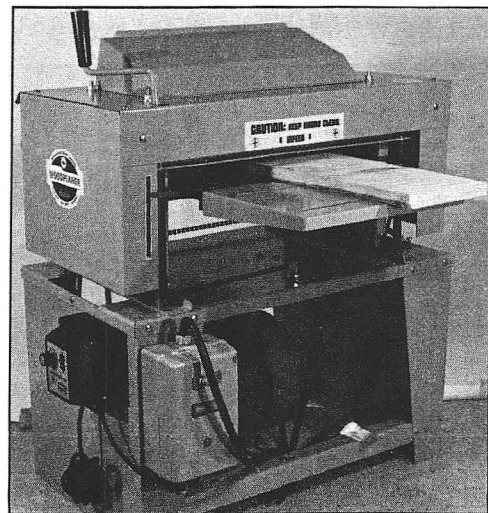

Fig. 6
6. Feed the stock into the infeed opening of the machine so that it travels in a straight line. (fig. 6)